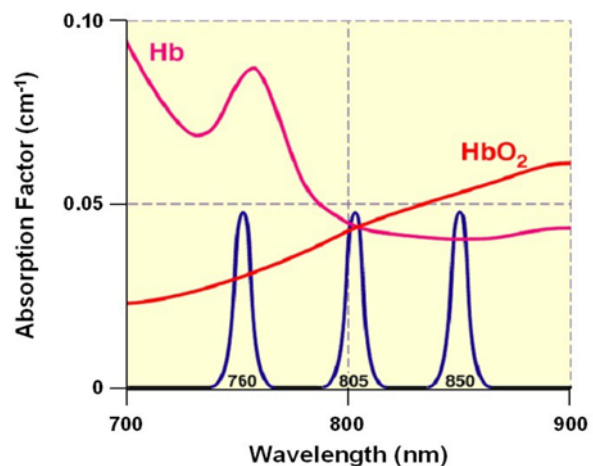

Figure 4-2: Absorption of light by hemoglobin
- The wavelength of 805nm is sensitive only to blood volume, not to oxygen saturation in the blood (see Figure 4-2). The Infrascanner is placed successively in the left and right frontal, temporal, parietal, and occipital areas of the head and the absorbance of light at 805 nm is recorded and compared.